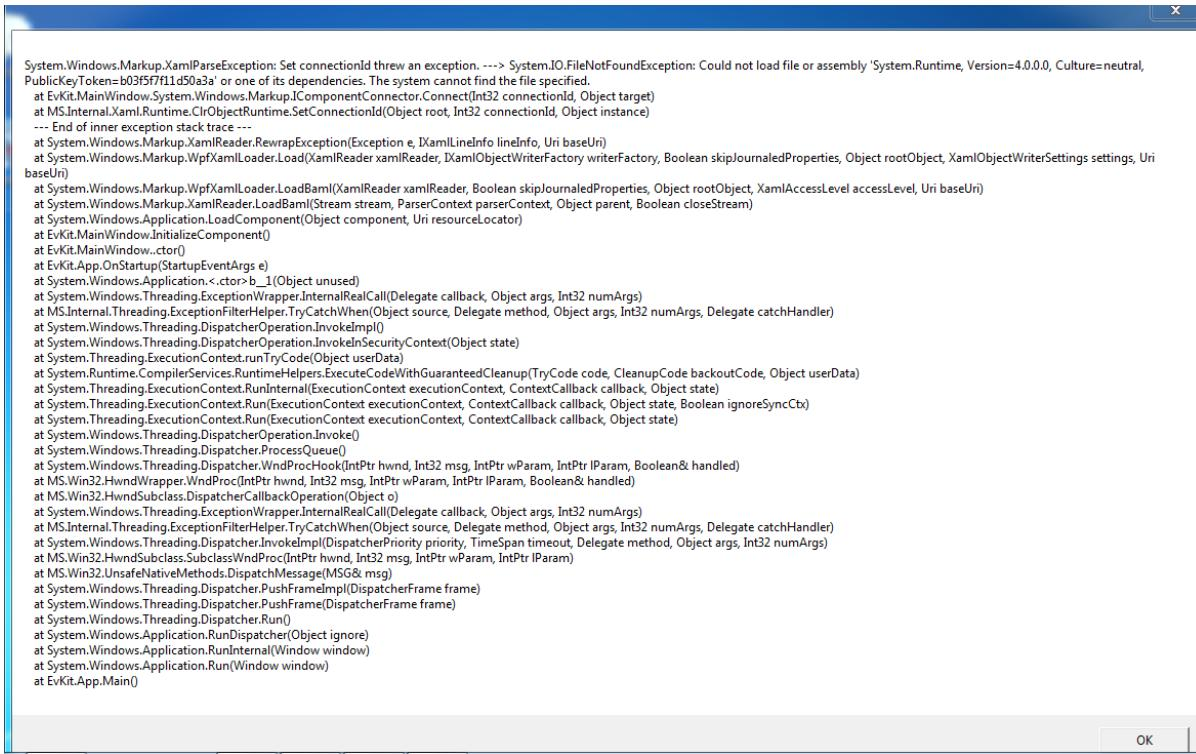

Figure 46: A Windows error message which indicates that Windows .NET installation is out-of-date.
- If an error message shown in Figure 46 appears, the Windows .NET installation is not up-to-date. Please run Windows update in order to solve this.